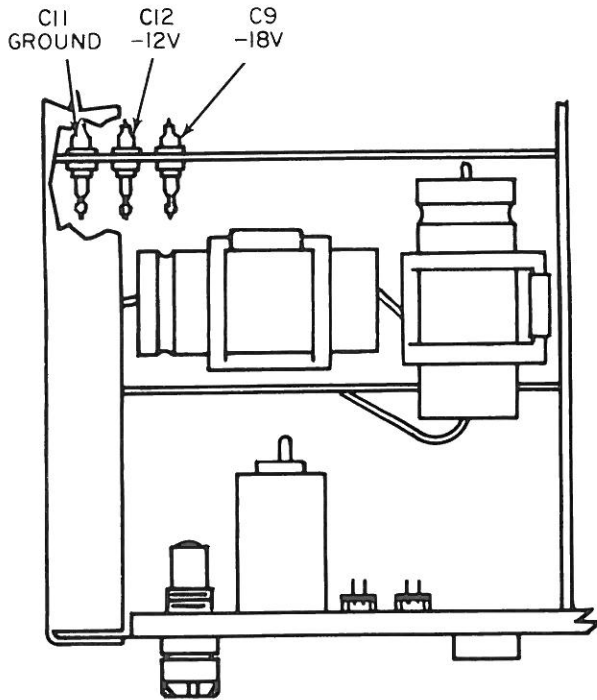

Fig. 5.2 . Regulated supply measuring points
- (1) Measure the output of the -18 V and -12 V regulated supplies at the points illustrated in Fig. 5.2.